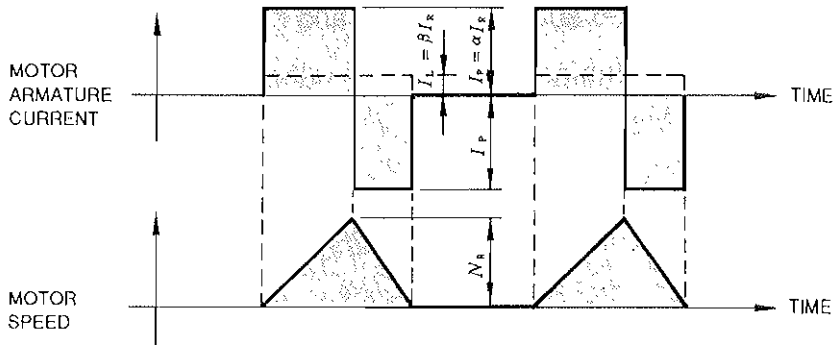

Fig. 4.4 Timing Chart of Motor Armature Current and Speed
- When the motor remains at standstill between cycles of acceleration and deceleration without continuous rated speed running (Fig.4.4).
The timing chart of the motor armature current and speed is as shown in Fig. 4.4.